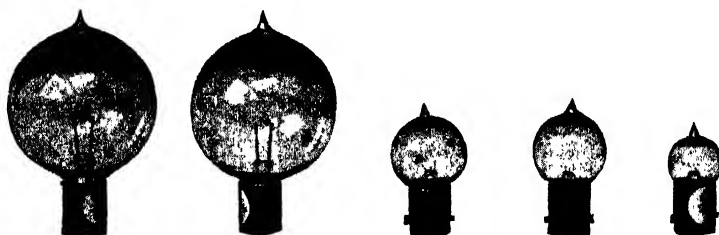

Fig. 17. Westinghouse Lamps—Head, Side, and Tail
*Mazda Type.* Fig. 17 shows the standard types of lamps generally used. These are Westinghouse Mazda lamps for 6 volts, those at the left being 15 c.p. headlight lamps; the next two, 6 c.p.